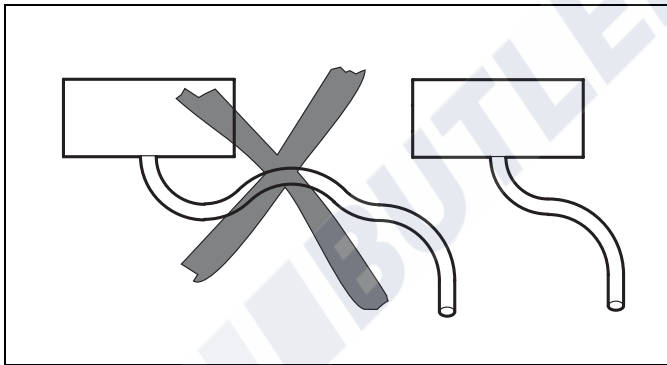

Fig. 40: Prevent the formation of condensate
- The exhaust line should point from the heater downwards to let condensation water escape (see Fig. 40). If this is not possible, a condensate drain hole with a diameter of 4 mm must be drilled at its lowest point.